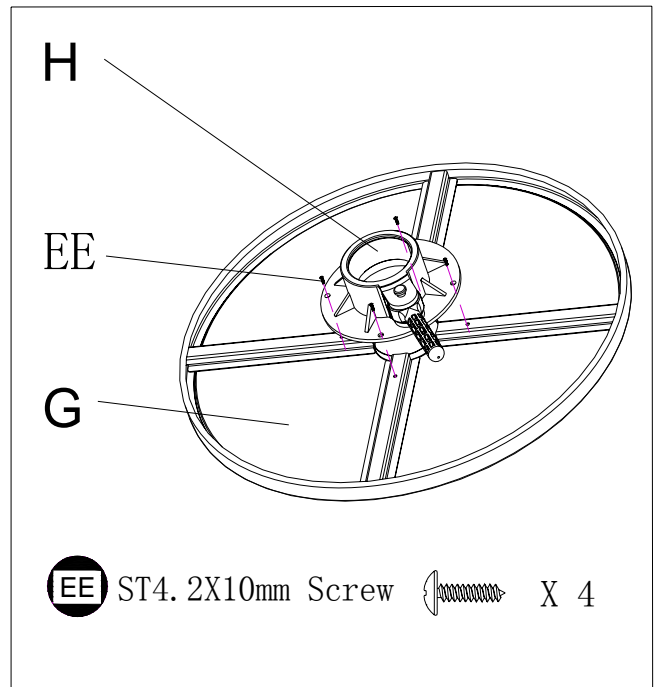
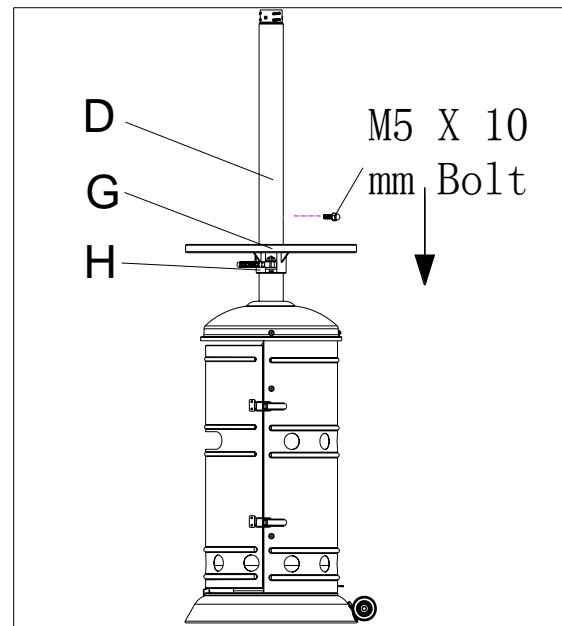

Fig. 5
Fig. 6
6.3: Reassemble the M5 x 10 mm Bolt to Post (D) in order to limit the height of the tabletop (G). Refer to Fig. 5 & Fig. 6